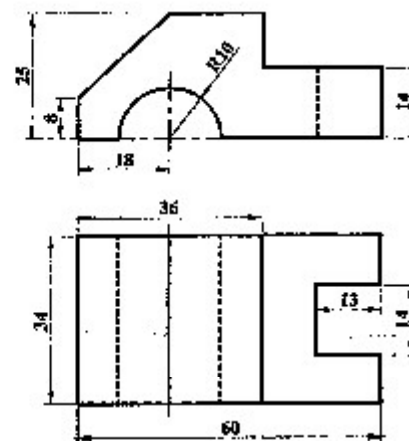

Figure P.2
2. Draw oblique drawing from the given orthographic views as shown in Figure P.2. [6]